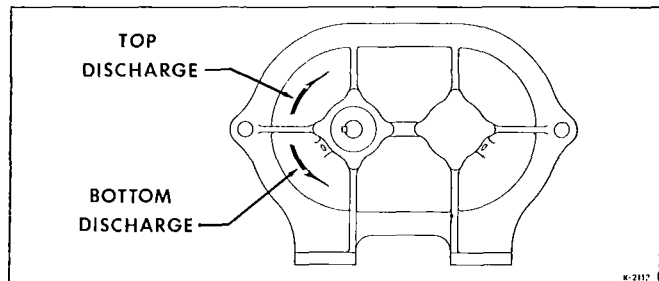

Figure 2 - Piping Connections for Different Shaft Rotations
8. Bump blower a few revolutions with driver to check that direction of rotation agrees with piping connections shown in Fig. 2, and that both units coast freely to a stop.